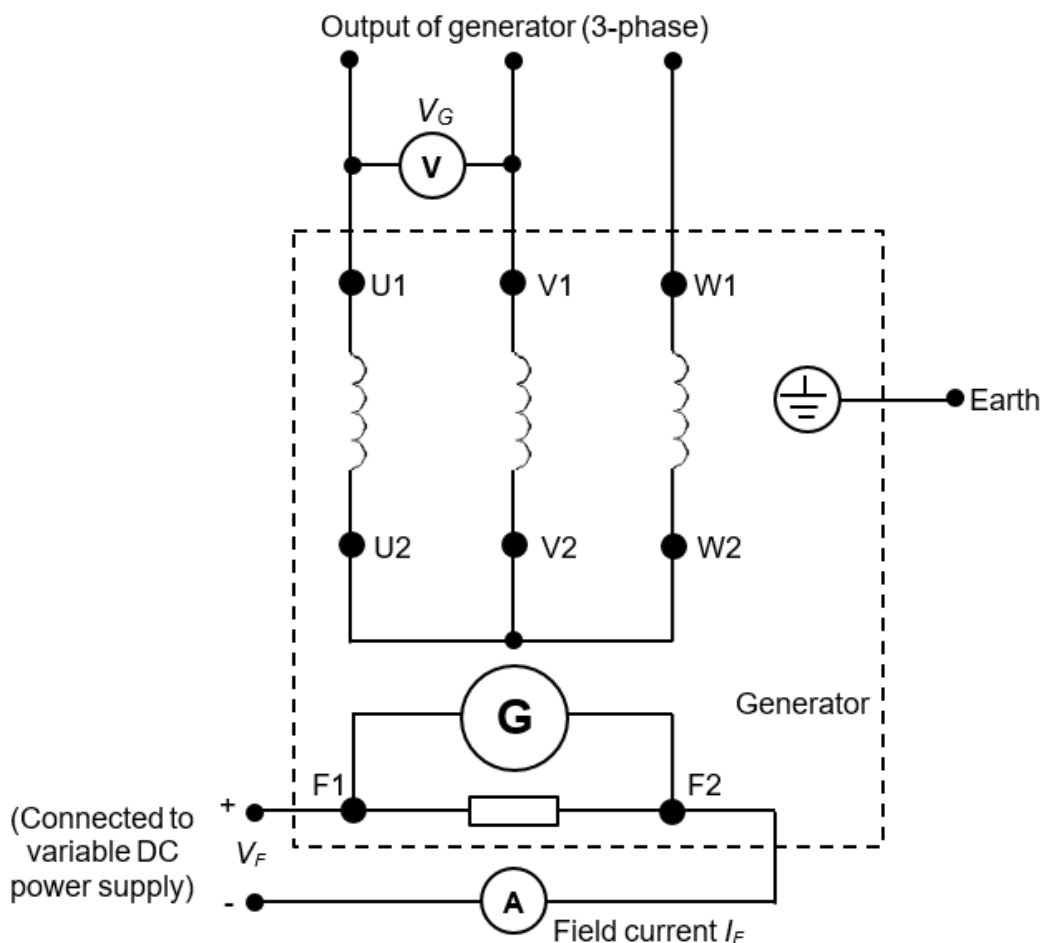

Figure 1
1. This test consists of 2 sets of circuit connection, the generator and motor circuits. On the generator circuit, connect a voltmeter between U1 and V1 of the generator output, as shown in Figure 1. Do not change any connection in the motor circuit.